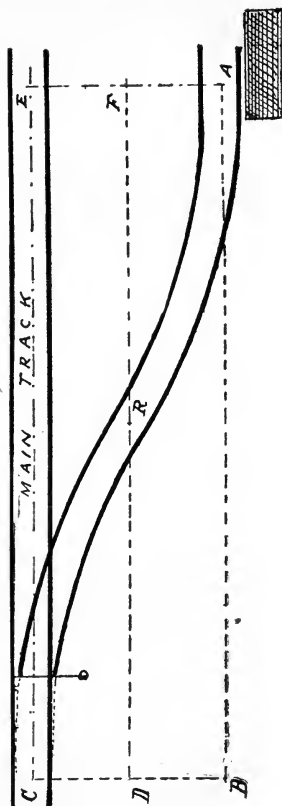

FIG. 22.
18. The simplest and most economical method for laying out a side track, along which buildings are located, is to continue the *lead curve* back of the frog to a point which would be midway between the tracks if they paralleled each other. Then reverse the curve and join it with the tangent on side track at a point the same distance from reversing point as the switch point is in the opposite direction, as shown in Fig. 22.
**RULE:**—When laying out the side track parallel with the main track, continue setting center stakes as if for a tangent from A to B, Fig. 22, making the latter point come at right angles with C, which is the point of switch already located in main track.